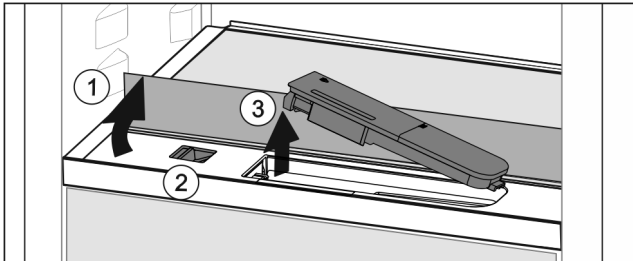

Fig. 121
- ▶ Lift the glass panel and fold towards the rear until it clicks into place Fig. 121 (1).
- ▶ Slide the slider Fig. 121 (2) to the left.
- ▶ Remove the water tank Fig. 121 (3).